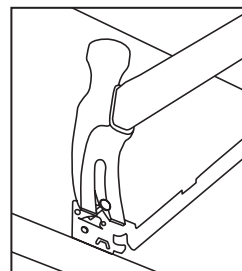

Figure 10
**Relocating Frame** – Nail can be removed with hammer claw to allow easy repositioning of fixture without damaging bar hanger or nail (Fig. 10).